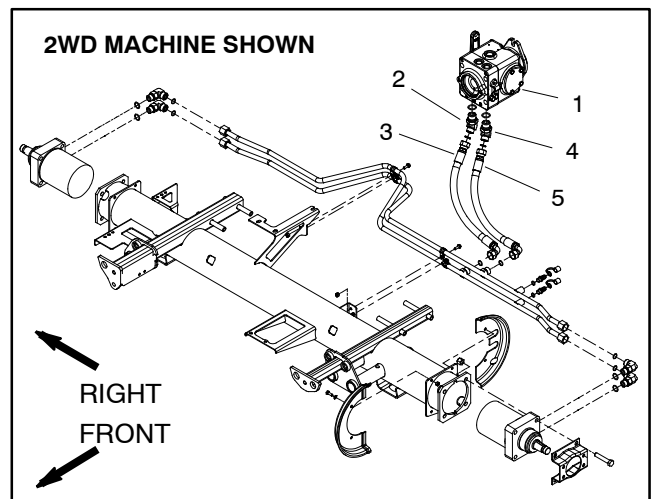

Figure 36
6. Thoroughly clean junction of hydraulic hose and **right** side fitting on bottom of traction pump (Fig. 36). Disconnect hose from right side pump fitting.